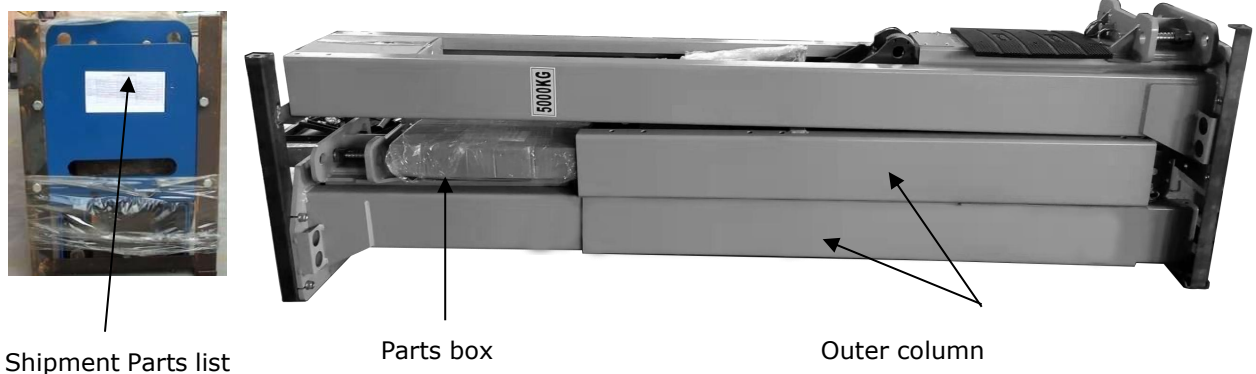

Fig. 9
2. Move the lift aside with a fork lift or hoist, and open the outer packing carefully and remove aside the top connecting assy. and parts box (See Fig. 9).